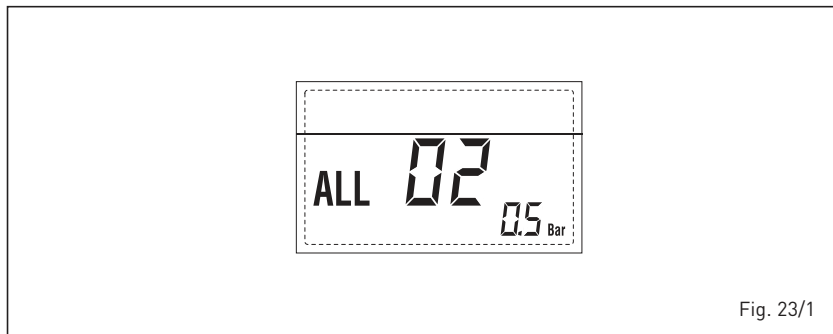

Fig. 23/1
– **ANOMALIE HAUTE PRESSION EAU "ALL 03" (fig. 23/2)**